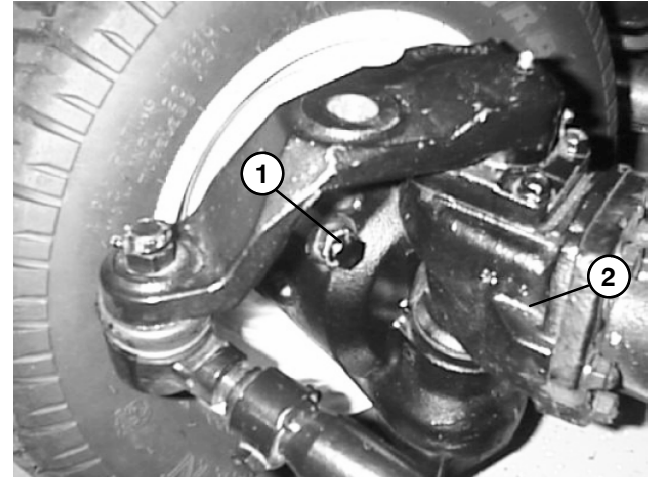

Figure 10
11. Check steering stop bolt adjustment. When the steering cylinder is fully extended (right turn), a gap of 1/16" (1.6 mm) should exist between bevel gear case casting and stop bolt on left axle case. Figure 10 shows stop bolt location.